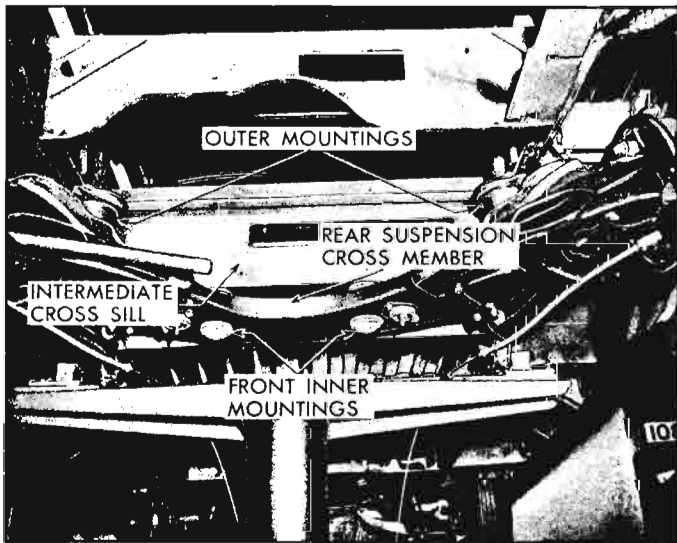

Fig. 10-15a—Locating Rear Suspension Mountings
2. Working up through bottom of rear underbody intermediate cross sill (fig. 10-15a) drill and tap for a 7/16-14 N.C. heli-coil insert or equivalent.
NOTE: Tapped plates are approximately 13 1/4 inches apart. The right plate is located closer to the centerline of body (approximately 5 1/4 inches from centerline (as indicated in Figure 10-15a).